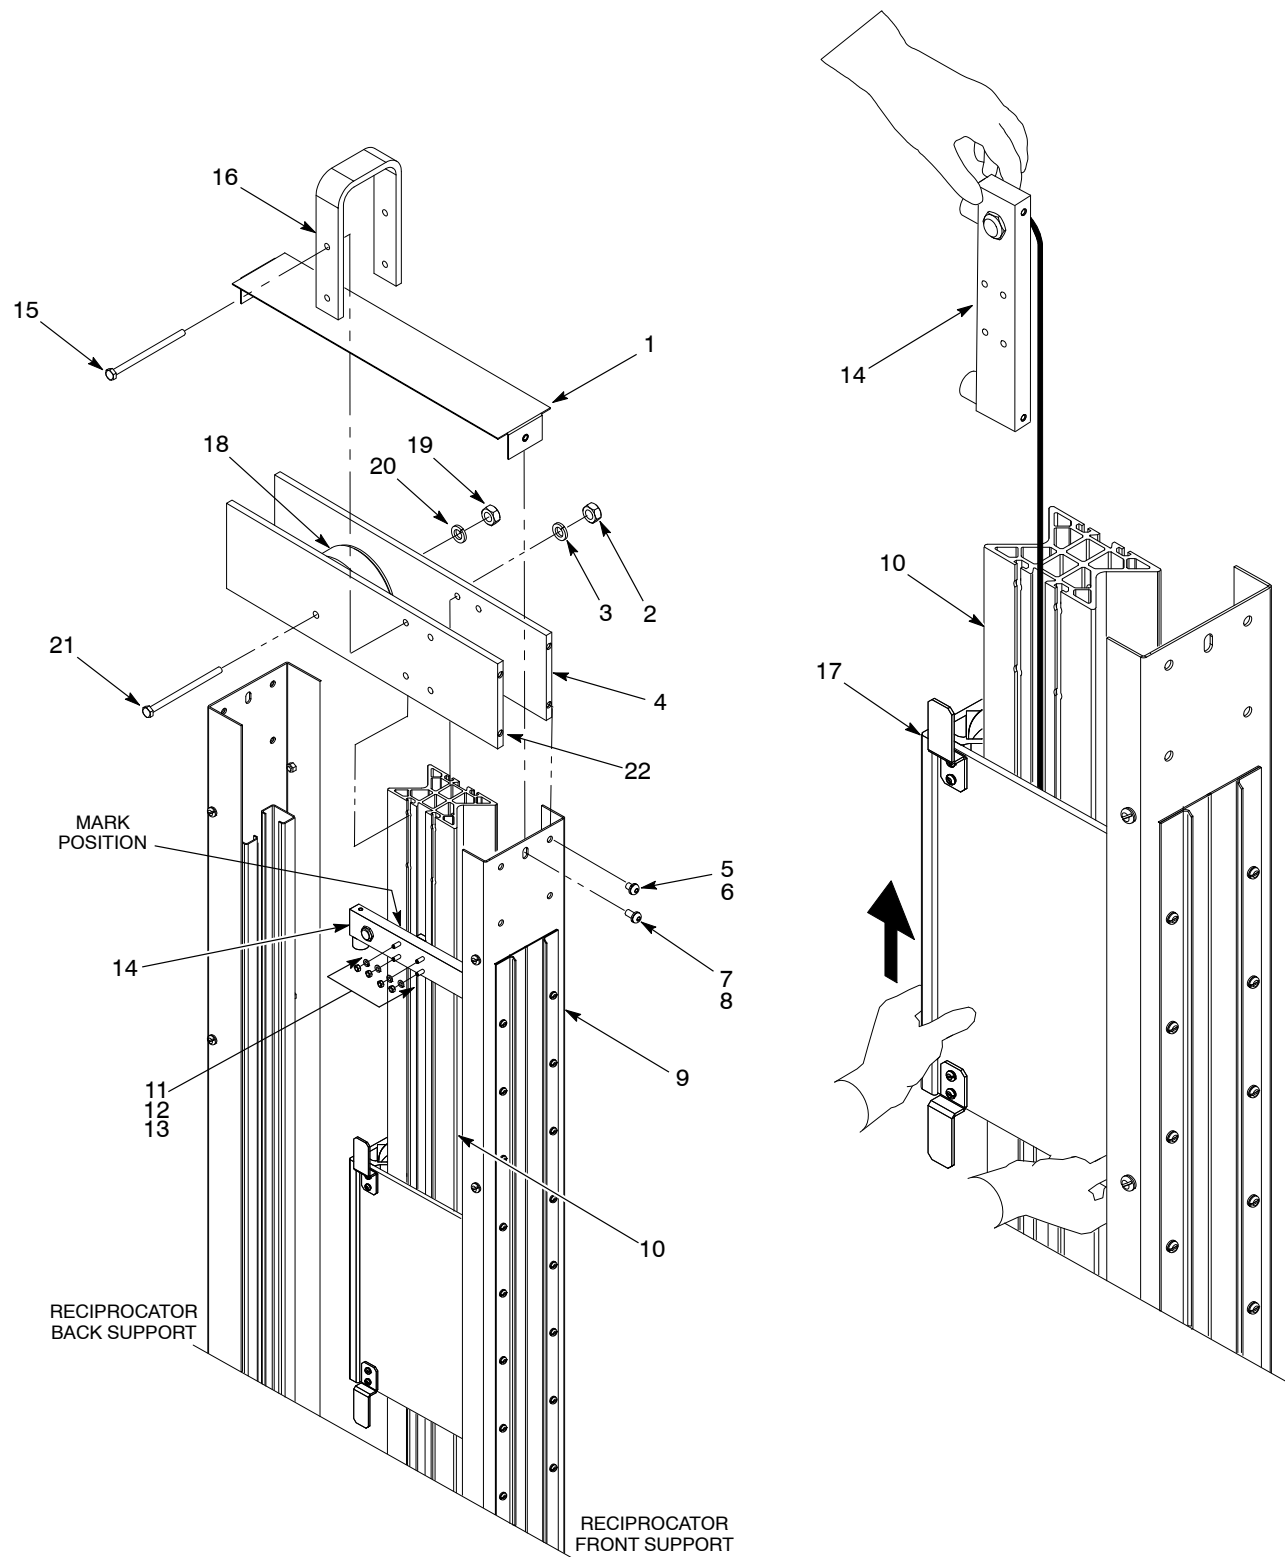

Figure 15 Removing the Gun Carriage Assembly
1. See Figure 15. Remove the belt (18) from the top pulley (19)
2. Remove the screws (7) and lock washers (8) securing the top cover (1) to the reciprocator (9).
3. Remove the nut (19), lock washer (20), and screw (21) securing the pulley (18) to the top side plates (4, 22). Remove the pulley assembly from the reciprocator (9).
4. Remove the screws (5) and lock washers (6) securing the side plates (4, 22) to the front and back of the reciprocator (9).
5. Remove the two screws (15), lock washers (3), and nuts (2) securing the U-lift bracket (16) to the gun carriage track (10). Do not remove the other two screws (15) securing top side plates (4, 22) at this time.
6. While supporting the side plate (4), remove the remaining lock washers (3) and nuts (2) from the two screws (15) securing the side plates (4, 22). Remove the side plate (4).
7. While supporting the remaining side plate (22), remove the two screws (15) from the carriage the track (10). Remove the side plate (22).
- a. Mark the position of the top bumper assembly (14) on the gun carriage track (10).
- b. Remove the nuts (11), lock washers (12), and T-bolts (13) securing the top bumper assembly to the gun carriage track (10)